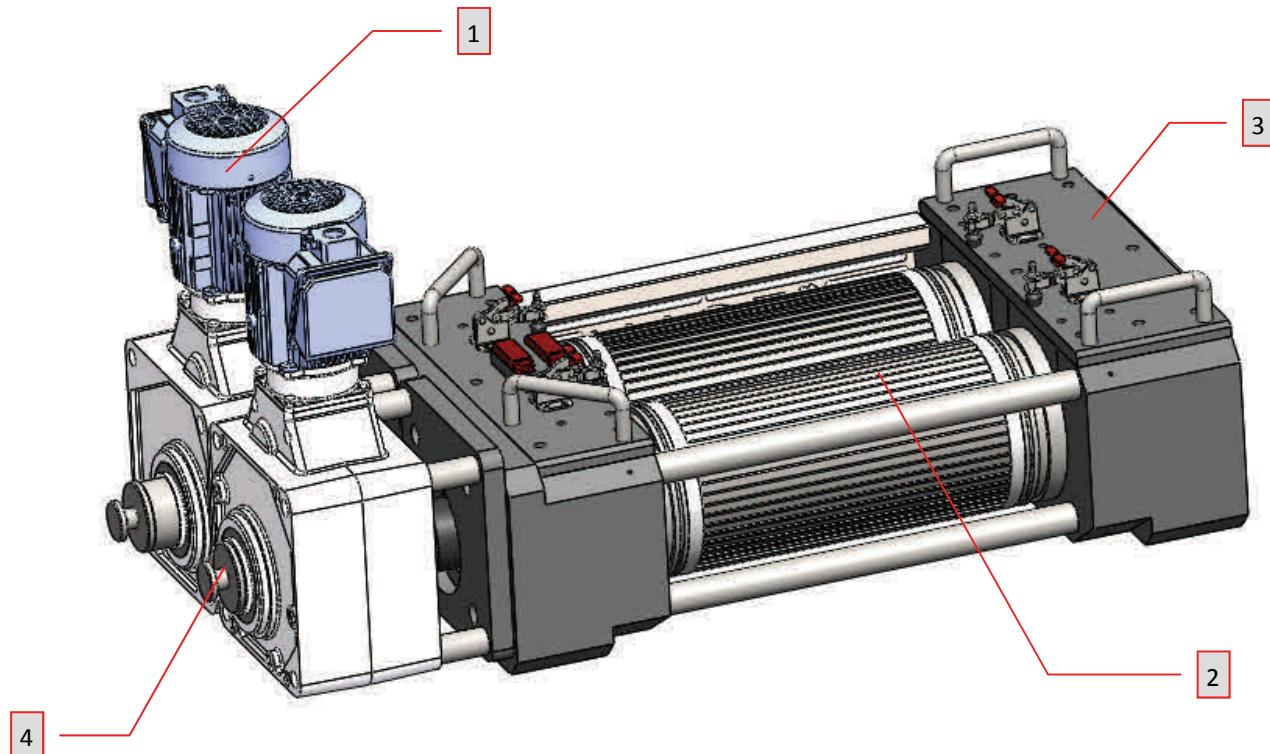

FIGURE 6—Feed Roll Assembly with Hopper Removed
1. **Feed Roll Gear Motors** – A separate gear motor drives each feed roll. One of the gear motors is visible in this picture. See Figure 6 below for a view of both gear motors.
4. **Extruder Head Housing** – There are two extruder head housings, one on each side. The tops are removable in order to remove the feed rolls. See Figure 6 below for more detail.